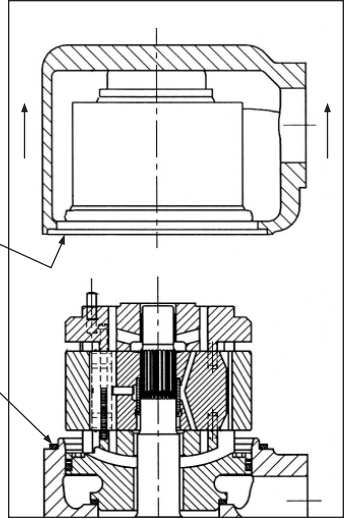

Fig. 31
3. Remove the housing (Fig. 31).